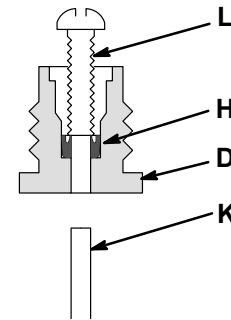

Fig 7 0291
6. Turn the nylon screw (L) into the packing (H). Insert the needle (K) through the bottom of the housing (D) and push the packing out the top of the fluid housing. See Fig 7.